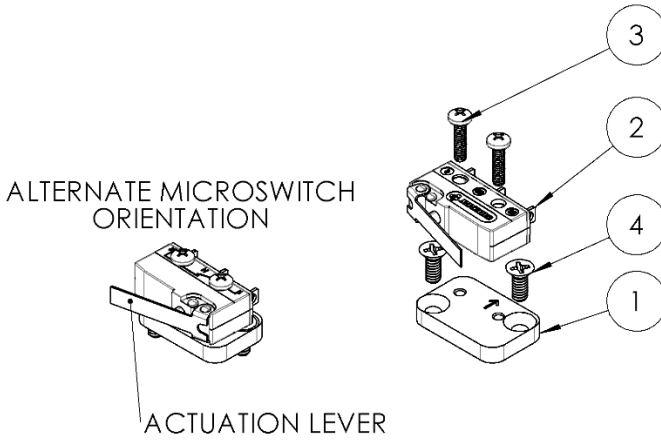
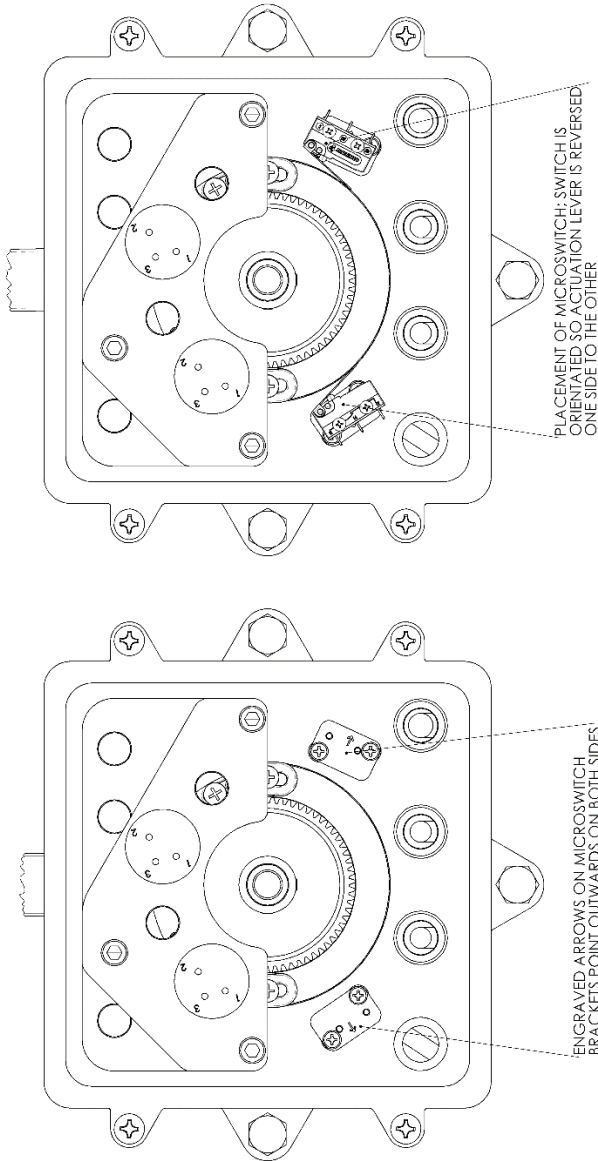
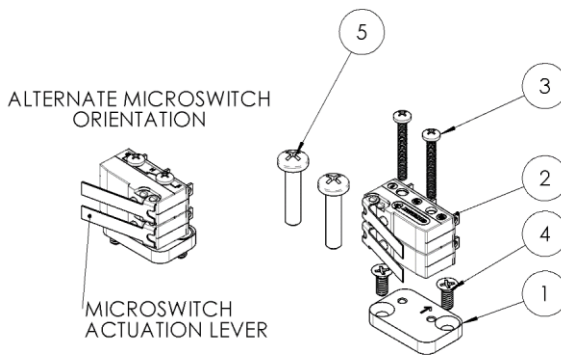
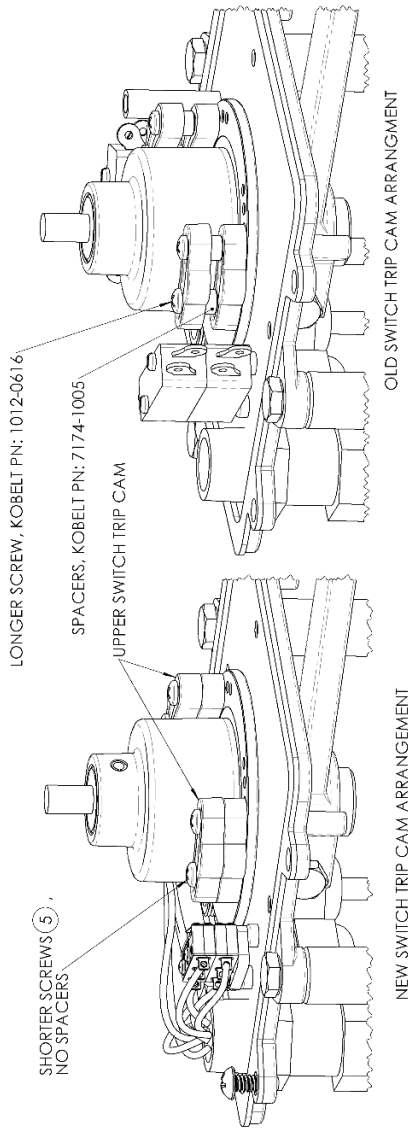

Figure 3: Microswitch retrofit kit, 7174-RF-01
Figure 5: Placement of microswitch and microswitch bracket, 7174-B shown.
Figure 7: Microswitch retrofit kit, 7174-RF-02
Figure 9: Arrangement of switch trip cams old microswitch and new microswitch
NOTICE	Before removing old microswitches, please ensure you have one retrofit kit for each side that has a microswitch being replaced. Review Figure 3 and Table 5 and compare to your retrofit kits to ensure the correct quantities of components are present.
4. Refer to Figure 5 and note the engraved arrow on the microswitch bracket ① is facing outwards on both sides of RFU.
5. Apply Loctite 242(Blue) to X2 Flat head screws ④.
6. Install bracket ① with screws ④ into the RFU cover plate, 7174-0002, ensuring the engraved arrow is correctly orientated.
7. Refer to Figure 5 and note the orientation of the microswitch ② for the side of the RFU that the microswitch is being replaced on.
8. Place the microswitch ② on top of the bracket ① orientating the microswitch so the actuation lever is as shown in Figure 5. For reference, the actuation lever is pointed to in Figure 3.
9. Apply Loctite 242(Blue) to X2 pan head screws ③.
10. Use X2 screws ③ and tighten to secure the microswitch ②.
NOTICE	Before removing old microswitches, please ensure you have one retrofit kit for each side that has a microswitch being replaced. Review Figure 7 and Table 6 and compare to your retrofit kits to ensure the correct quantities of components are present.
- Refer to Figure 5 and note the engraved arrow on the microswitch bracket ① is facing outwards on both sides of RFU.
- Apply Loctite 242(Blue) to X2 Flat head screws ④.
- Install bracket ① with screws ④ into the RFU cover plate, 7174-0002, ensuring the engraved arrow is correctly orientated.
- Refer to Figure 5 and note the orientation of the microswitch ② for the side of the RFU that the microswitch is being replaced on.
- Place the microswitches ② on top of the bracket ① orientating the microswitches so the actuation lever is as shown in Figure 5. For reference, the actuation lever is pointed to in Figure 7.
- Apply Loctite 242(Blue) to X2 pan head screws ③.
- Use X2 screws ③ and tighten to secure the microswitches ②.
- Review the old versus new arrangement of the switch trip cams shown in Figure 9.
14. Apply Loctite 242(Blue) to the shorter screws ⑤ included in the retrofit kit.
15. Replace the upper switch trip cam and secure with the shorter screws ⑤, leaving out the spacer.